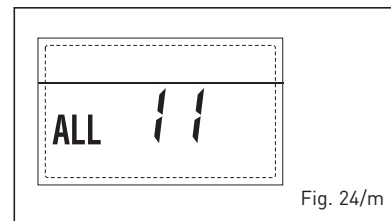

Fig. 24/m
– **CONFIGURATION ANOMALY "ALL 12" (fig. 24/n)**